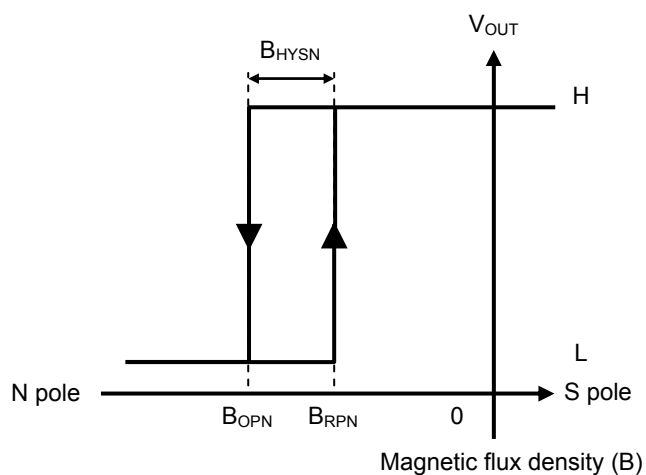

**Figure 14**
**Figure 14** shows the relationship between the magnetic density and  $V_{OUT}$ .